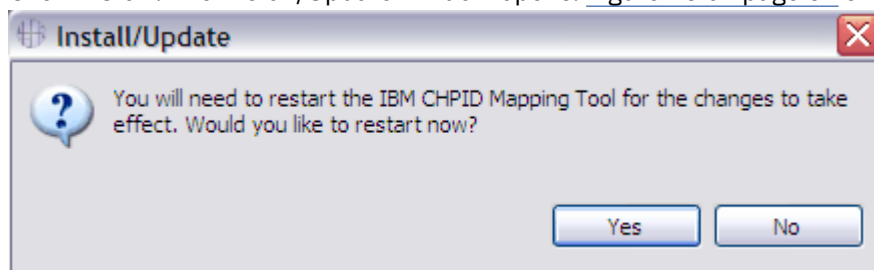

Figure 75. Install/Update window
8. Click **Install**. The Install/Update window opens. Figure 75 on page 57 shows this window.